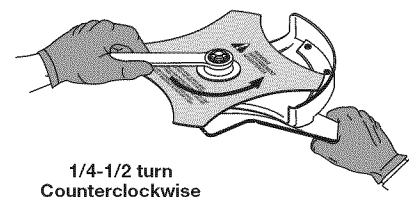

Fig. 10
- Without a torque wrench, use a 5/8 inch closed-end or socket wrench, turning the nut until the blade retainer is snug against the shaft bushing. Make sure that the blade is installed correctly, then rotate the nut an additional 1/4 to 1/2 turn counterclockwise (Fig. 10).